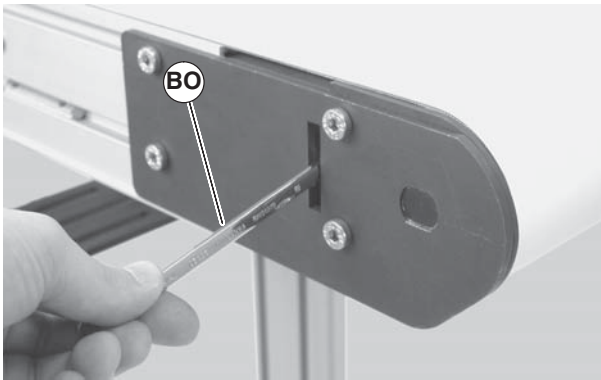
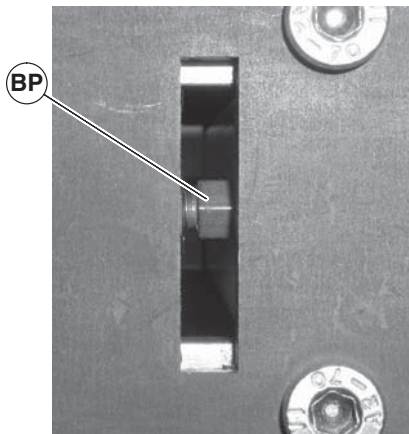

Figure 39
Figure 40
2. With the conveyor running, use wrench (Figure 39, item BO) to rotate the tracking screw (Figure 40, item BP) in small increments until the belt tracks in the center of the conveyor.